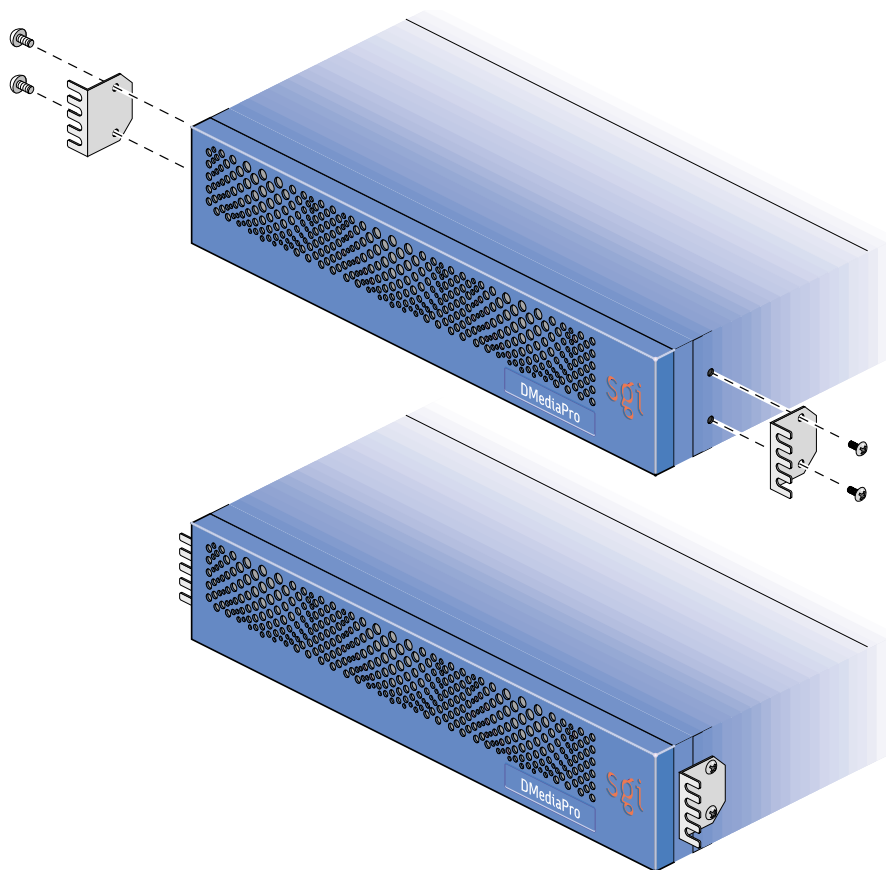

Figure 2-1 Installing the Mounting Brackets on VBOB
3. Place the VBOB on a flat surface and attach the front mounting brackets, as shown in Figure 2-1.